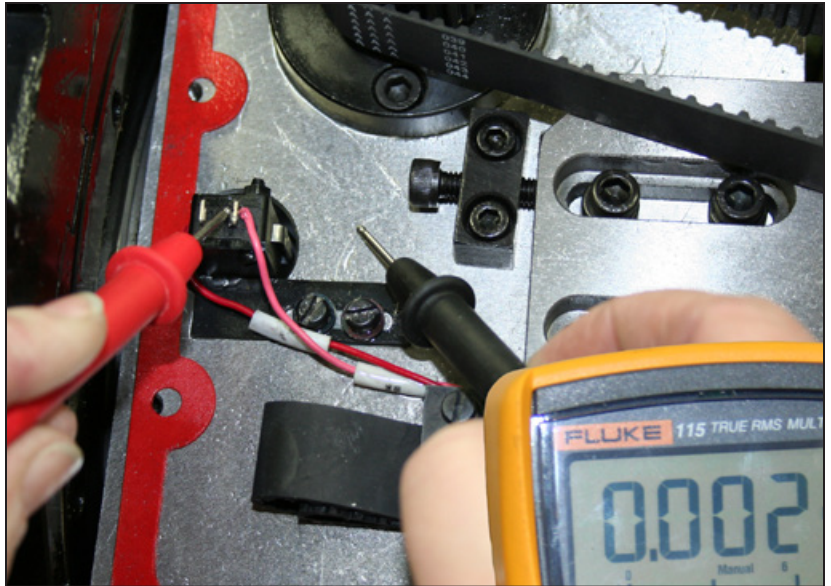

Figure 45
7. Move the bracket left and, using a multimeter, touch contact shown in **Figure 45** and a ground; adjust switch location until the multimeter reads 0 volts.